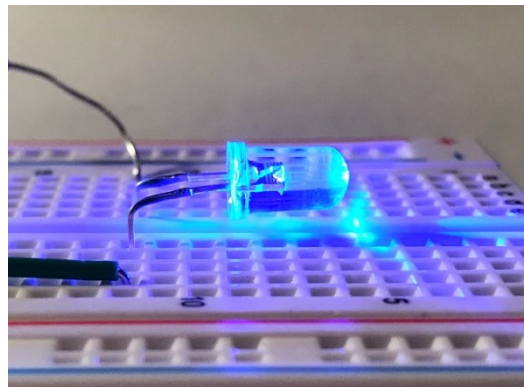

Fig. 9: LED bent to shine horizontally for easy viewing through the spectroscope.
1. It may be easiest to read the spectroscope in a hands-free manner, so bend the LED 90° to aim horizontally toward the spectroscope (see Fig. 9).